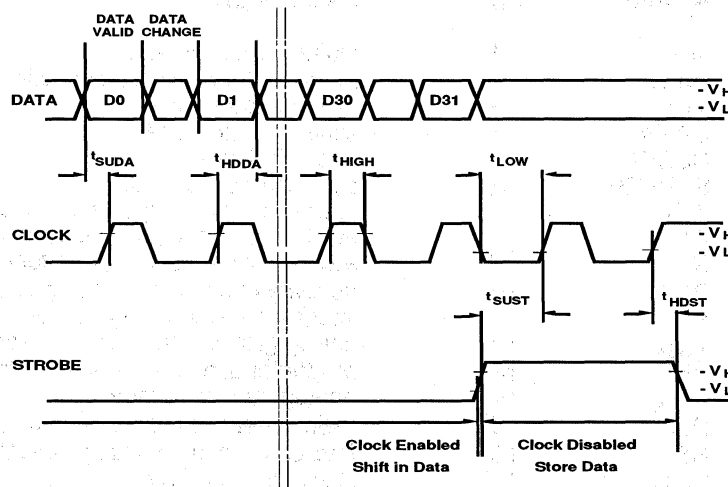
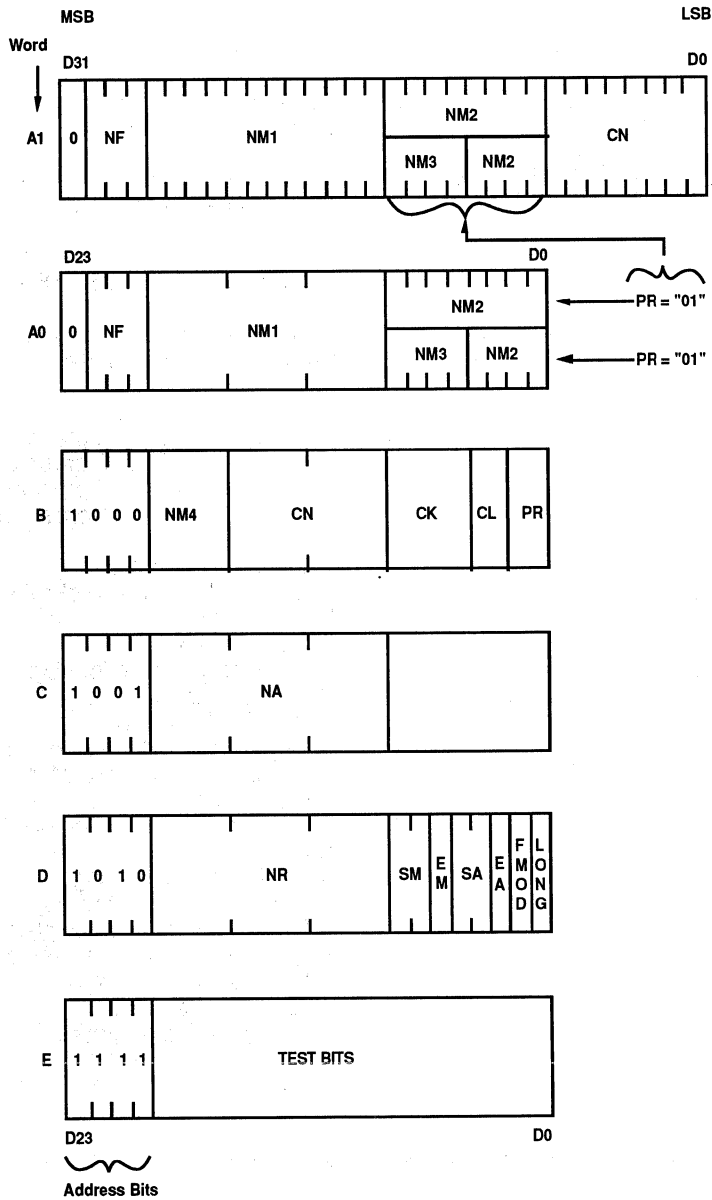

Fig. 3 Serial Input timing sequence
Fig. 4 Serial input word format
2. Co-channel selectivity, Fig.4(b) ($f_2 = f_1 \pm$ up to 3 kHz)
3. Spurious immunity, Fig.4(b) ($f_2 = 100\text{ kHz to } 2\text{ GHz}$)
4. Intermodulation immunity, Fig.4(c) ($f_2 = f_1 \pm \Delta f_{CS}$; $f_3 = f_1 \pm 2 * \alpha f_{CS}$)
5. Blocking, Fig.4(b) ($f_2 = f_1 \pm 1\text{MHz}$)
6. Frequency offset range, Fig.4(a) (deviation = $\pm 4.0\text{ kHz}$, $f_1 = 469.950\text{ MHz } \pm 2\text{ kHz}$; $f_{\text{offset min}}$)
7. Deviation range, Fig.4(a) (deviation = ± 2.5 to $\pm 7\text{ kHz}$; $\Delta f_{\text{dev min}}$ to $\Delta f_{\text{dev max}}$)
8. Receiver turn-on time, Fig.4(a)
The serial input is a 3 wire input (CLOCK, STROBE, DATA) to program all counter ratios, DAC's, selection and enable bits. The programming data is structured into 24 or 32 bit words; each word includes 1 or 4 address bits. Figure 3 shows the timing diagram of the serial input. When the STROBE = L, the clock driver is enabled and on the positive edges of the CLOCK the signal on DATA input is clocked into a shift register. When the STROBE = H, the clock is disabled and the data in the shift register remains stable. Depending on the 1 or 4 address bits the data is latched into different working registers or temporary registers. In order to fully program the synthesizer, 4 words must be sent: D, C, B and A. Figure 4 shows the format and the contents of each word. The E word is for testing purposes only. The E (test) word is reset when programming the D word. The data for NM4, CN, and PR is stored by the B word in temporary registers. When the A word is loaded, the data of these temporary registers is loaded together with the A word into the work registers which avoids false temporary main divider input. CN is only loaded from the temporary registers when a short 24 bit A0 word is used. CN will be directly loaded by programming a long 32 bit A1 word. The flag LONG in the D word determines whether A0 (LONG = "0") or A1 (LONG = "1") format is applicable. The A word contains new data for the main divider. The A word is loaded only when a main divider synchronization signal is also active, to avoid phase jumps when reprogramming the main divider. The synchronisation signal is generated by the main divider. It disables the loading of the A word each main divider cycle during maximum 300 main divider input cycles. To be sure that the A word will be correctly loaded the STROBE signal must be H for at least 300 main divider input cycles. Programming the A word means also that the main charge pumps on output PHP and PHI are set into the speed-up mode as long as the STROBE is H.